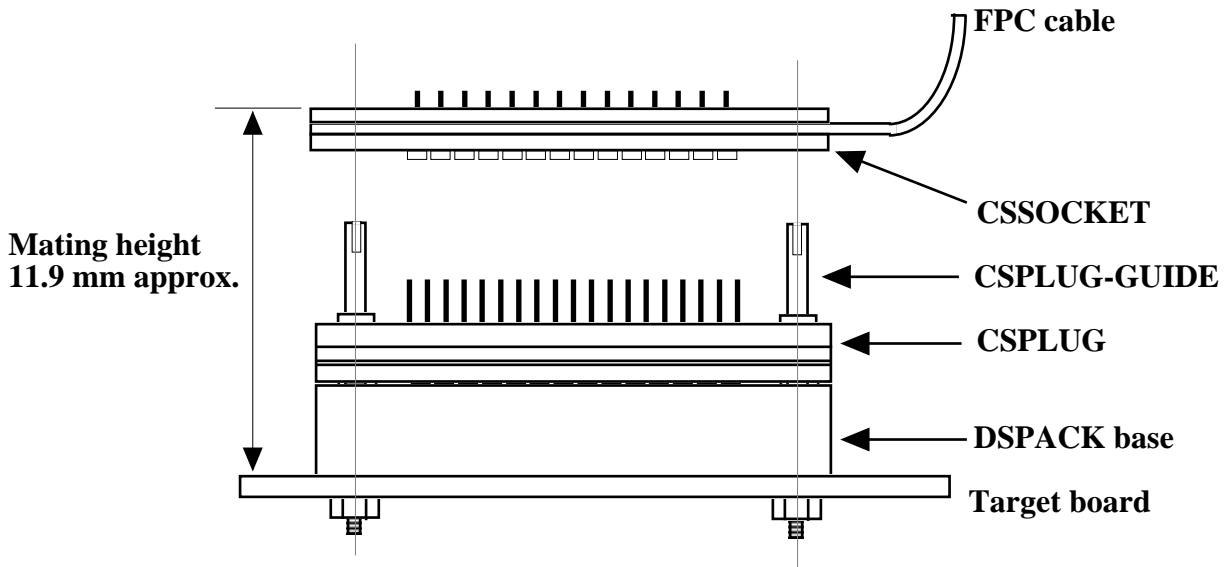

Fig 7. ICE cable connection with CSPLUG and CSSOCKET
1. As shown Fig 7, CSPLUG is assembled onto DSPACK. During tightening CSPLUG-Guide, hold DSPACK base by fingers to protect DSPACK base from tightening force. CSGUIDE should be tightened in diagonal order with equal torque.